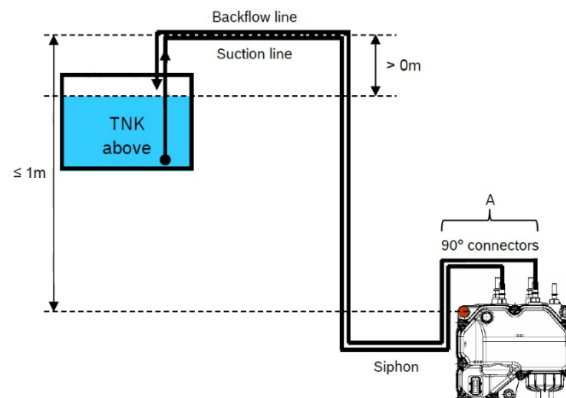

Figure 7-28. Layout: Tank above supply module
- As shown in Figure 7-28, the difference between the height of the reference point and the height of the highest point in the suction line has to be considered for emptying of SM after operation. Additionally, the highest point of the suction line has to be above the maximum DEF tank fill level to avoid any backflow into the SM after emptying it.